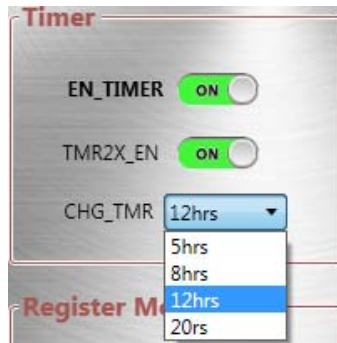

Figure 20: Charge Timer Setting
18. Set the charge timer (see Figure 20). The charge timer ranges between 5hrs and 20hrs, and the default value is 12hrs.
The integrated charge timer provides backup protection to prevent a damaged battery from being charged after a certain time. The MP2733 can disable the timer function by switching off the EN_TIMER button (see Figure 20).